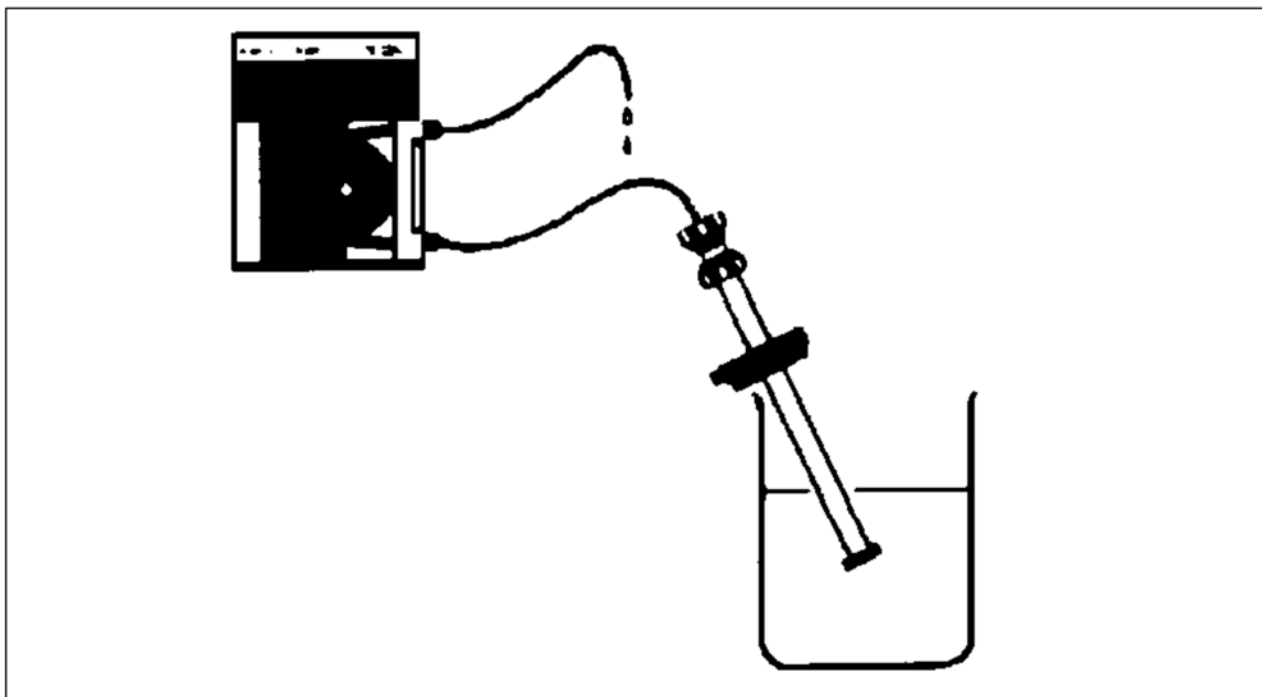

Fig. 1.
2. Connect the adaptor to a pump or syringe. Submerge the plunger end in buffer and fill the adaptor using the pump or syringe (Fig. 1). Ensure that there are no air bubbles trapped under the net. Close the tubing with a stopper. Insert and tighten the adaptor 2 cm from the bottom of the column.